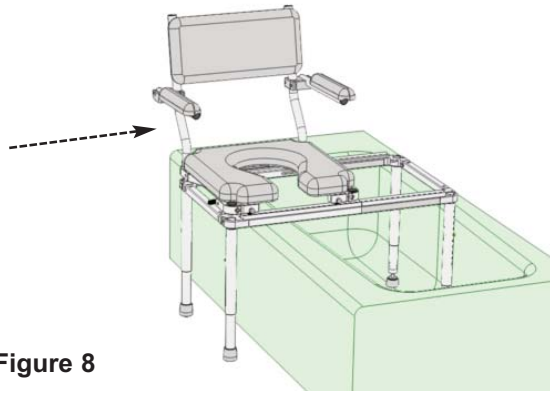
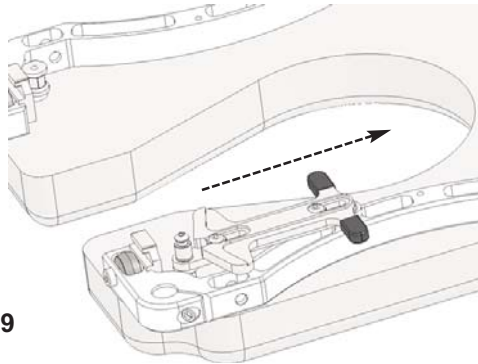

Figure 8
Figure 9
**C Shower Chair:** Position the multiCHAIR inside the bathtub/shower. Adjust the height of the multiCHAIR accordingly by setting the position of the brass buttons on the four inner legs to the various adjustment holes on the outer legs (Refer to Figure 8). Pull the release latch open on the slider seat frame and transfer into the tub portion until the latch engages onto the opposite stop (Refer to Figure 9).